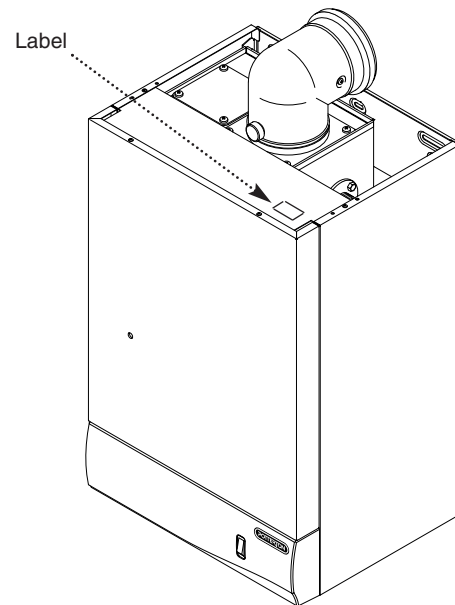

Fig. 1
5. A label giving details of the model, serial number and Gas Council number is situated on the top of the outercase (Fig. 1).